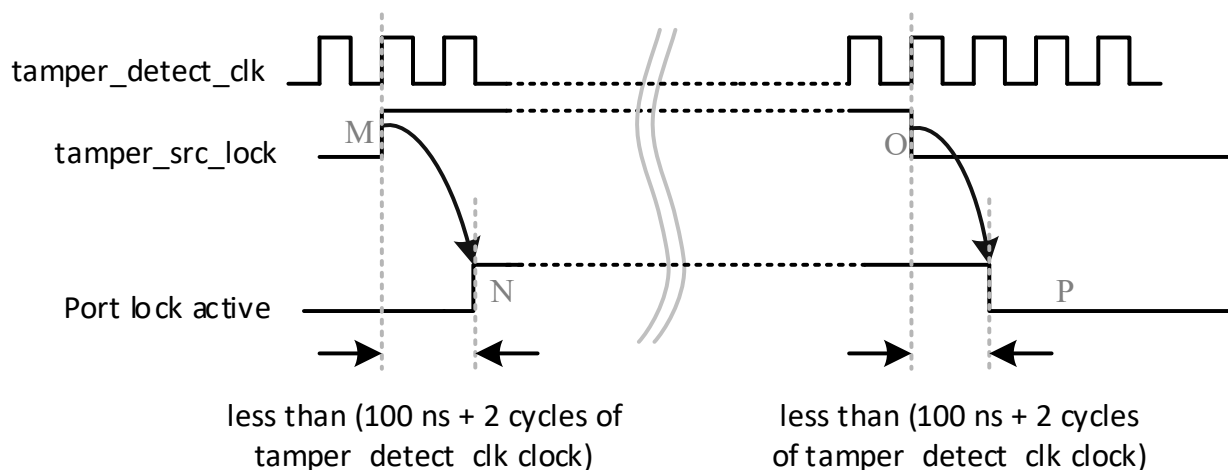

Figure 5.2. Tamper Response (Port Lock) Timing Diagram
*Note: When running the clock at high speed, you must comply with the delay requirements of the Tamper Detection logic. Refer to Figure 5.2 for the detailed timing diagram.
Once enabled, the configuration ports are locked after a certain delay (N) as shown in Figure 5.2.